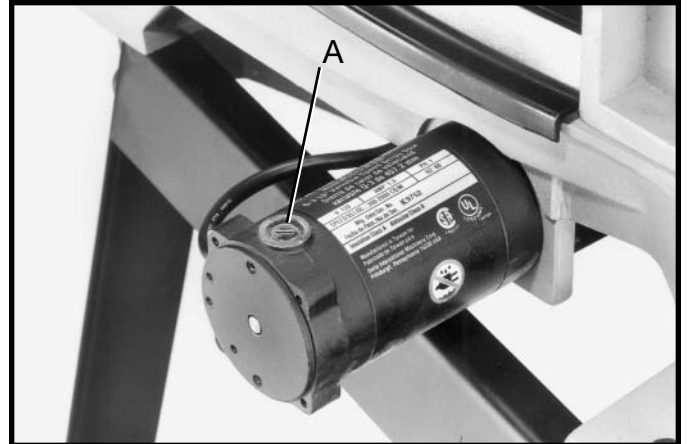
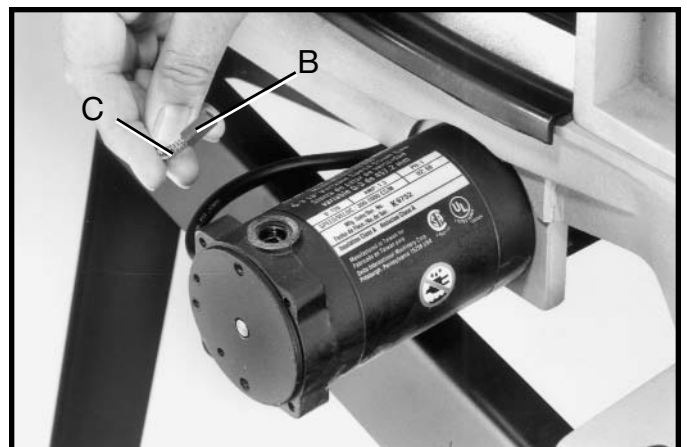

Fig. 34
Fig. 35
The brush holders, one of which is shown at (A) Fig. 34, are located in the motor housing opposite each other. Fig. 35 illustrates one of the brushes removed for inspection. When the carbon (B) on either brush is worn to 3/16" in length or if either spring (C) or shunt wire is burned or damaged in any way, replace both brushes. If the brushes are found serviceable after removing, reinstall them in the same position as removed.